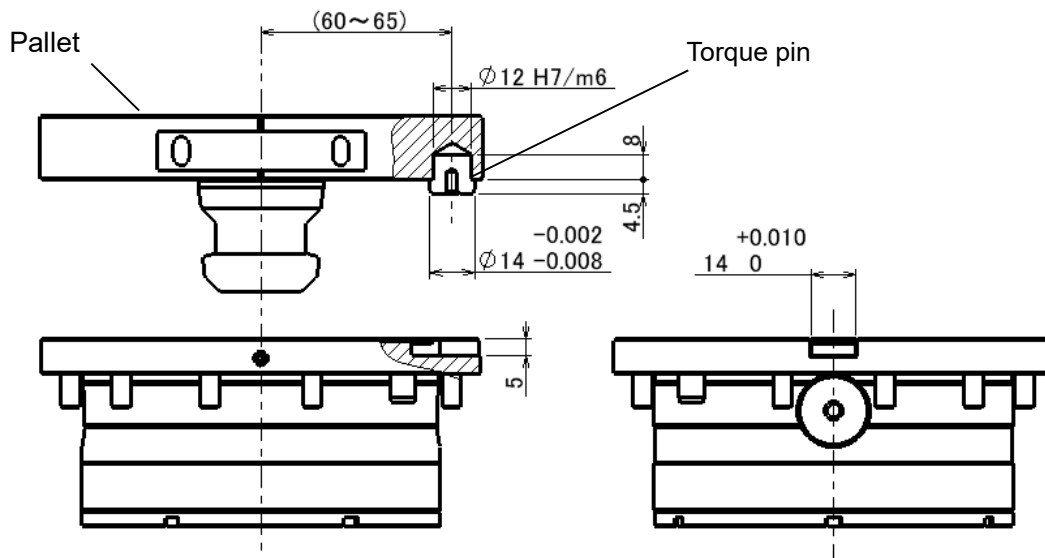

Figure 9 Installing the torque pin
- When using only one unit, design the pallet with reference to Figure. 9.